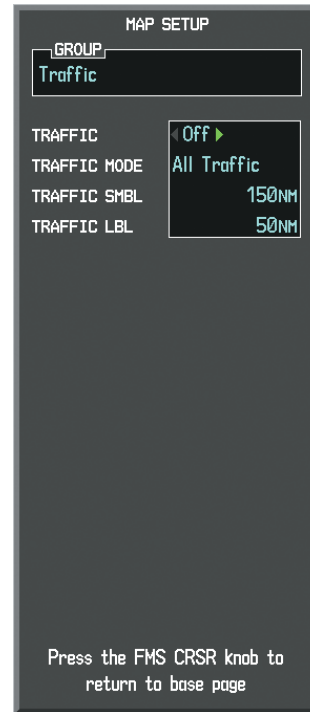

Figure 6-182 Navigation Map Page Setup Menu, Traffic Group
- 5) Turn the large **FMS** Knob or press the **ENT** Key to scroll through the selections (Figure 6-182).